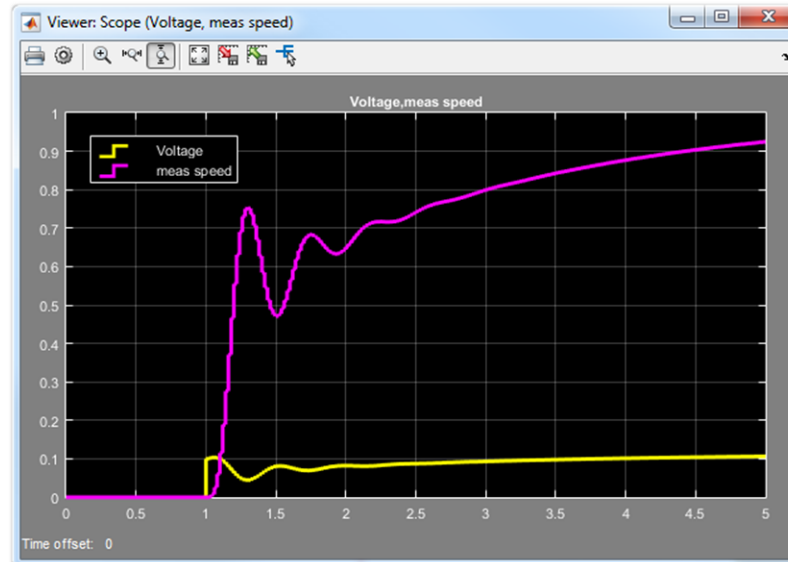

Figure 48 - Voltage Output and Measured Speed
3. Simulate the model and observe that it takes more than 5 seconds for the wheels to reach the desired wheel speed. This is showcased in the Figure 48.